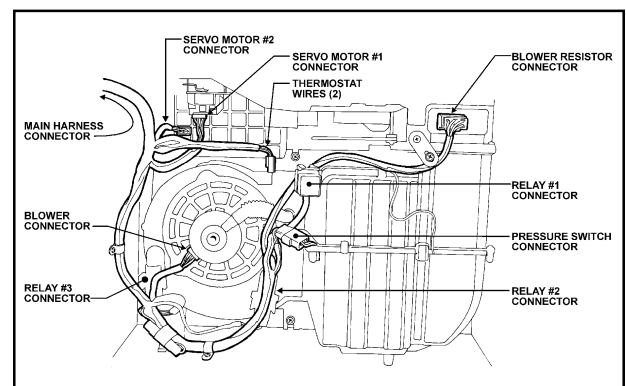

Figure 55: Blower/Cooling Unit
- 5) Disconnect wire harness at: (Fig. 55)
- Three (3) relays
- Two (2) connectors from thermostat